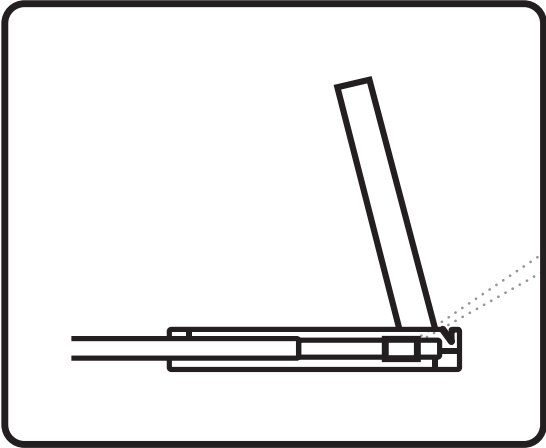

Figure 12.
- A black arrow release button is located on the outside of each slide. (shown in Figure 12).